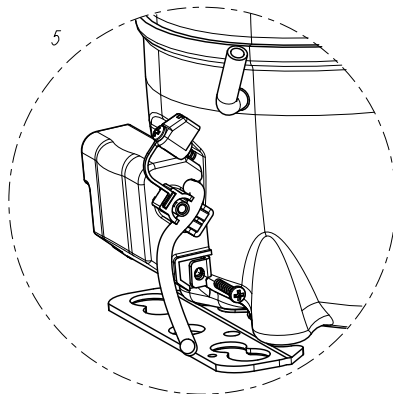

Figure 3.10: Step 5 - Screw the fence cover
- The screws shown in Figure 3.10 and Figure 3.11 must be fixed with a torque within 0.8 – 1.2 Nm range.